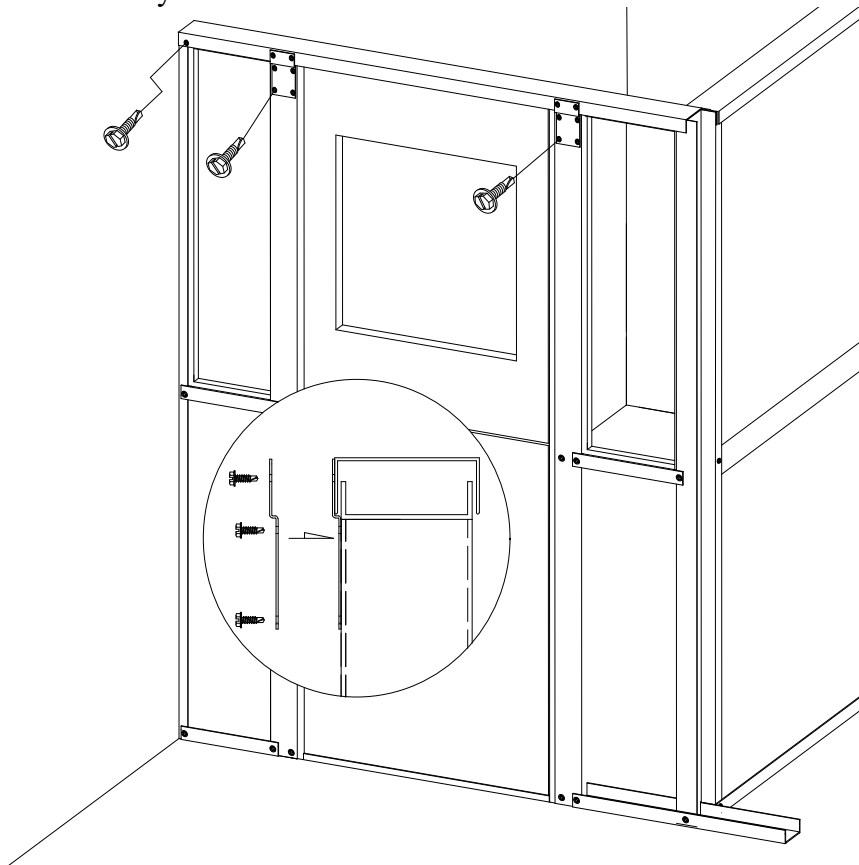

Figure 38
23. Place the appropriate “C” channel onto the top of the front wall. The rear flange should fit over “B” channels and fit into the notches at the top of the “F” channels. Secure as shown in figure 38. Note: the “C” channel must be raised slightly and leveled before fastening. Make sure that the bottom edges of the channel do not interfere with the opening of the door at the top. It is